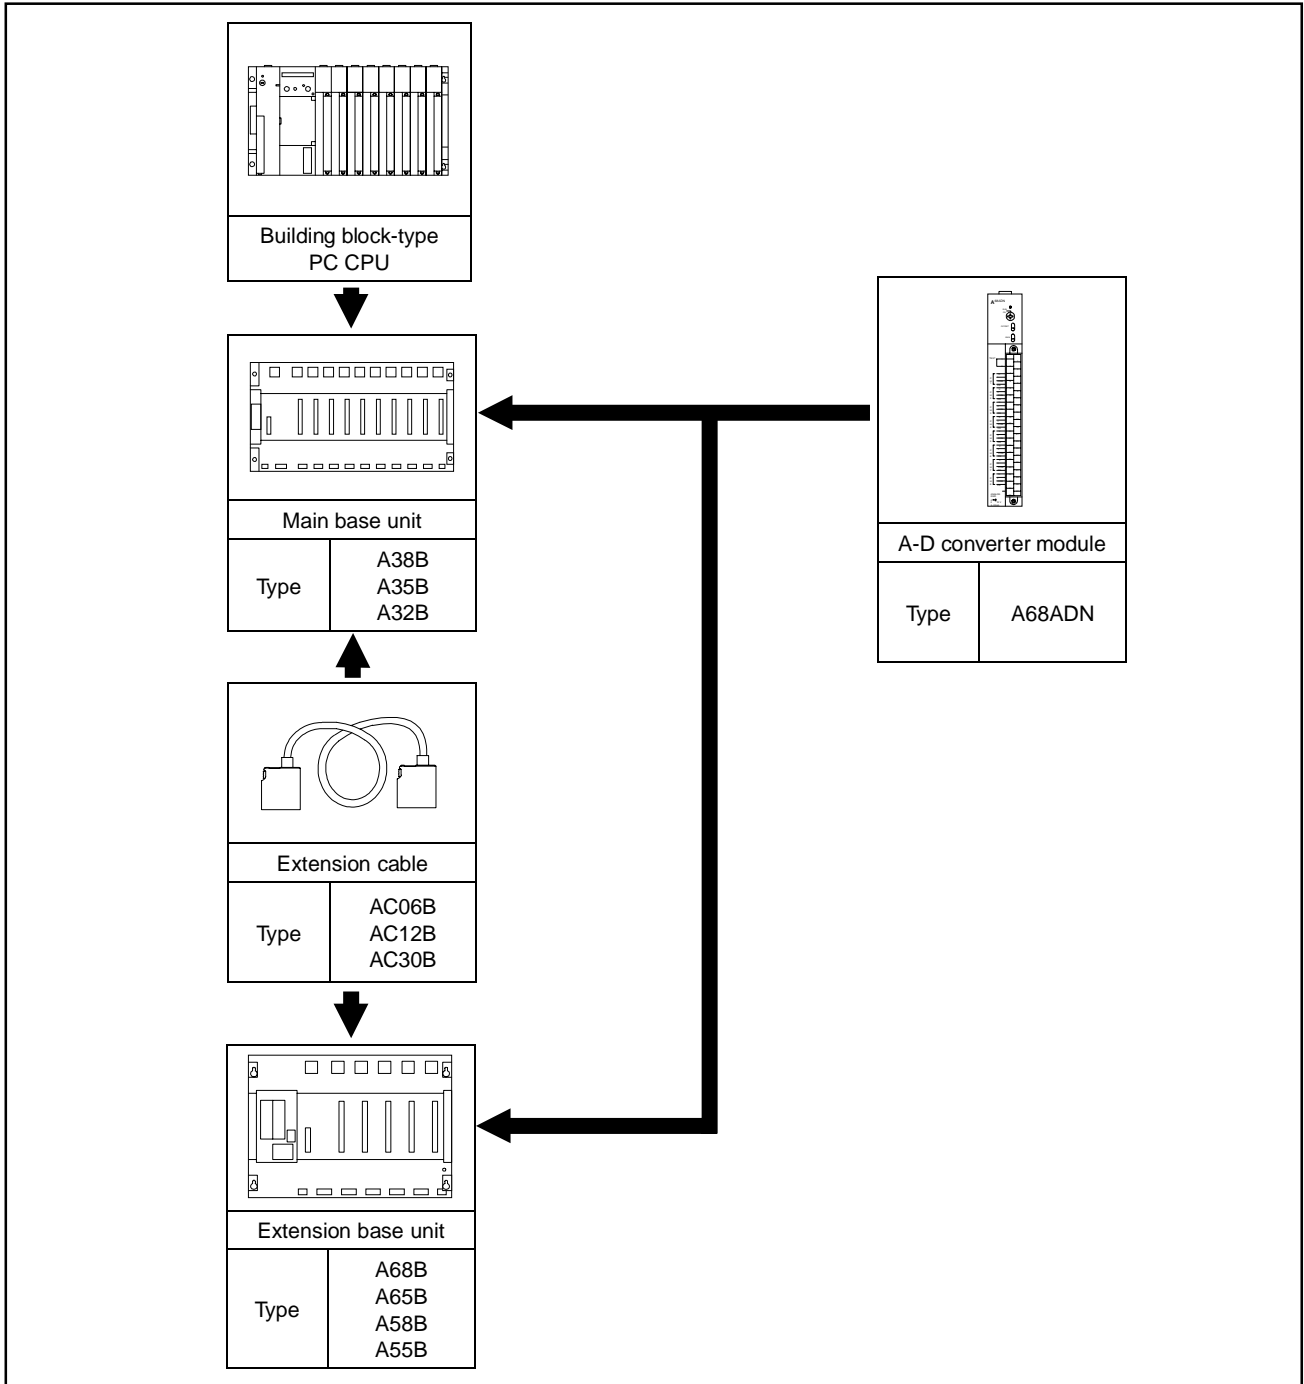

Fig.2.1 Overall Configuration Using a Building Block-Type PC CPU
(1) Figure 2.1 shows the overall system configuration when the A68ADN is used with a building block-type PC CPU